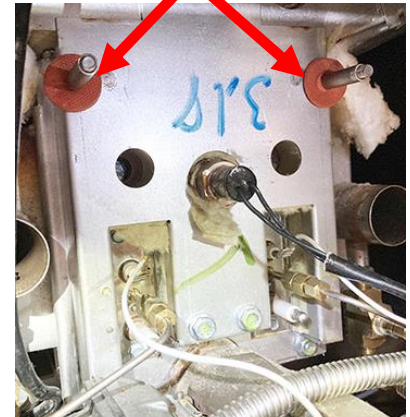

Figure 35
38. Remove the spacers and red washers from the shafts and set aside (see Figure 35).